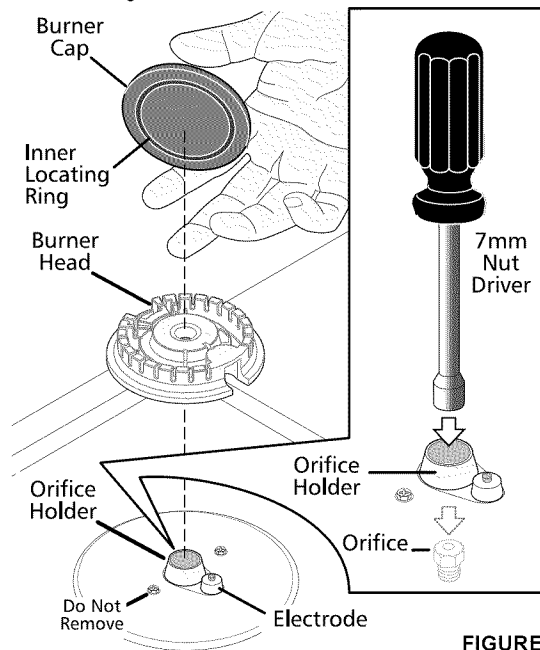

FIGURE 7
- Remove the four factory installed natural gas orifices from the center of the orifice holders using a 7 mm nutdriver (See Figure 7). Remember to keep the original Natural Gas Orifices for later conversion to Natural Gas. Refer to page 1 under "IMPORTANT" to identify their markings.